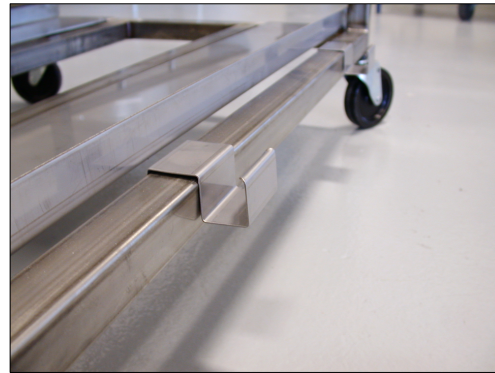

Figure 11, Drain Tray support brackets
2. Place the Drain Tray support brackets on the lower bar of the frame (Figure 11)